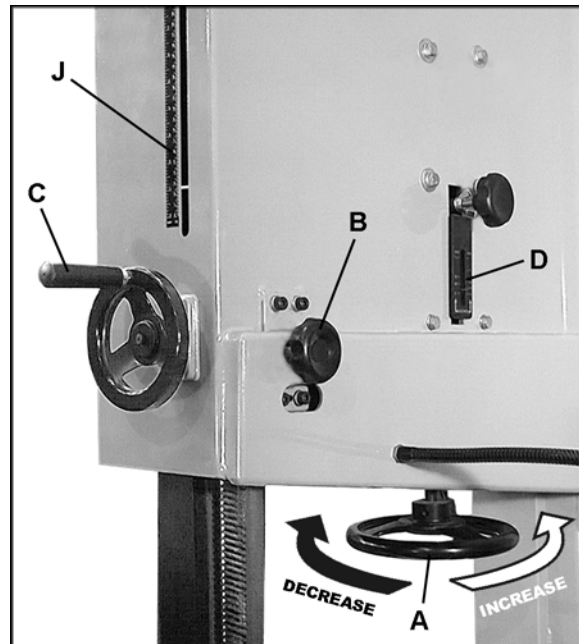

Figure 14
2. Decrease blade tension by rotating blade tension handwheel (A, Figure 14) according to the arrow direction in Figure 14, until the handwheel stops.
5. Lower the upper blade guide assembly by loosening the knob (B, Figure 14) and rotating the handwheel (C, Figure 14).
3. Rotate blade tension handwheel to set the blade tension, according to the arrow directions in Figure 14.
4. The gauge (D, Figure 14) indicates the approximate tension according to the width of the blade in inches. Initially, set the blade tension to correspond to the width of your blade. As you become familiar with the saw, you may find it necessary to change the blade tension from the initial setting.
TIP: When the band saw is not being used, slightly release the tension on the blade – this will prolong the blade's life. Make a note of the specific tension setting for that particular blade, as shown on the gauge (D, Figure 14). The tension can then be re-set quickly when band saw operations are resumed.
2. Loosen lock knob (see B, Figure 14) and raise or lower upper blade guide assembly by turning the handwheel (C, Figure 14).
3. Position the blade guide assembly about $\frac{3}{16}$ " above the material to be cut. The scale (J, Figure 14) shows the distance from bottom of upper blade guides to the table surface.
4. Tighten lock knob (B, Figure 14).